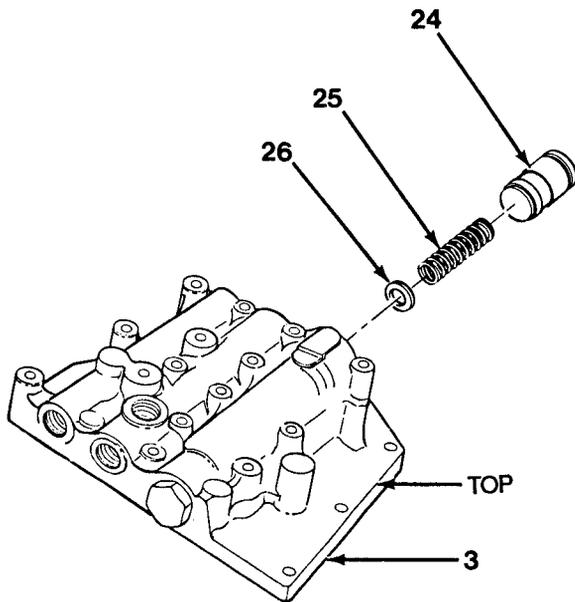

Figure 11-7
23. Remove accumulator piston (24), accumulator spring (25) and washer (26) from top bore of valve body (3, Figure 11-7).
1. Install washer (26), accumulator spring (25) and accumulator piston (24) in top bore of valve body (3). Accumulator piston (24) should move freely in bore of valve body (3, Figure 11-7).